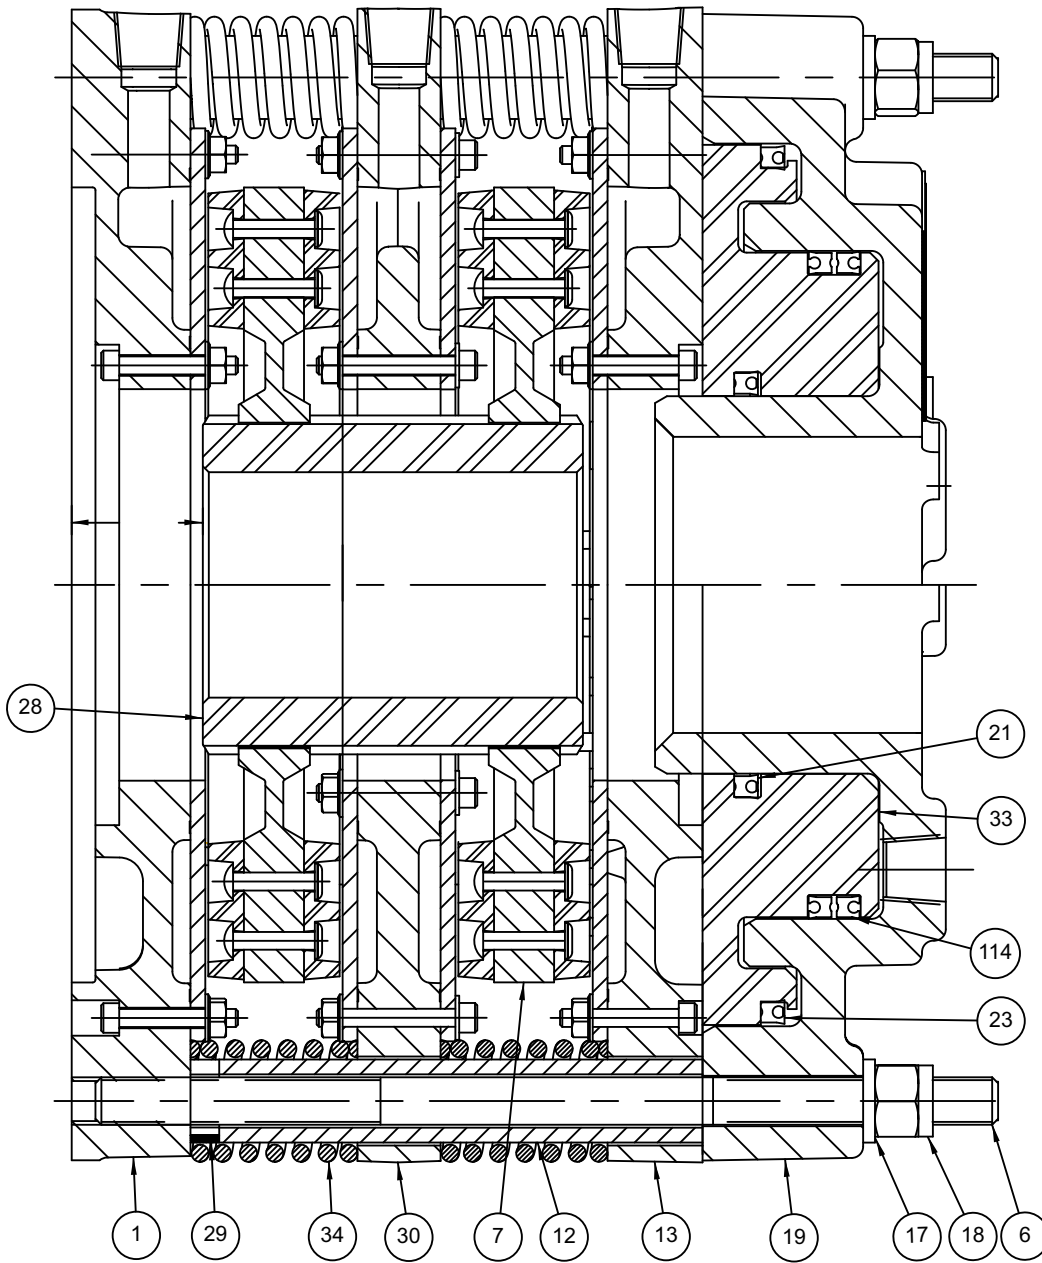

Figure 1
- 1.2.1 Referring to **Figure 1**, the operation of the Airflex WCBDEP is identical to that of the Airflex WCB2EP with the exception of the dual chambered piston/cylinder power head assembly. In the WCBDEP brake, air pressure is applied to either the inner, outer, or both sets of the ports in the dual cylinder (19), causing the dual piston (33) and pressure plate assembly (13) to move towards the mounting flange, compressing the release springs. As the applied pressure to either, or both of pressure chambers increases, the friction disc(s) are clamped between the pressure plate and mounting flange, stopping or controlling the shaft that the discs are mounted upon. Modulation of air pressure then controls applied torque of the tensioner. The inner cylinder/piston chamber area of the power head is referred to as the small cylinder/piston, and the outer cylinder/piston chamber area is referred to as the large cylinder/piston.
Note : Some assemblies might have used a one piece bidirectional seals. These have been superceded by the use of TWO seals that fit back to back, as shown in **Figures 1 and 2**.
- 4.1.10 Install the new seals in the grooves in the piston, noting the proper orientation of the seal lips. For locations where two seals are installed back to back, the O-ring expander in each seal should face away from the second seal. See **Figures 1 and 2**.